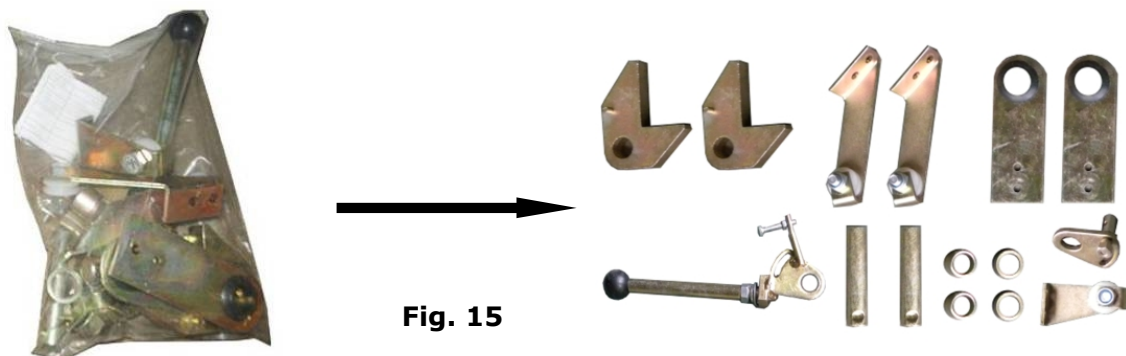

Fig. 15
8. Check the parts of the parts bag 2# according to parts bag list (See Fig. 15).